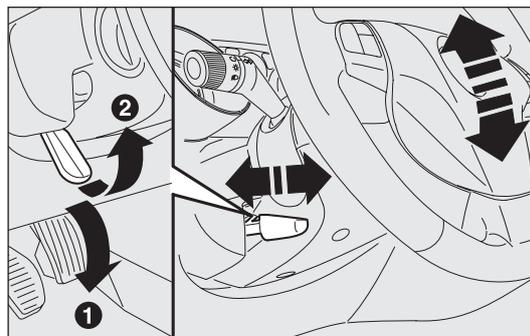

fig. 28
- release lever A-fig. 28 by pushing it forwards (position 1);